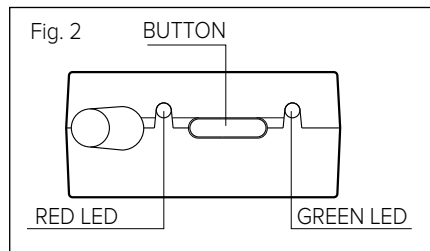

Fig. 2
- Check that the connection between the receiver and the heat generator has been completed successfully (receiver with green led on) (Fig. 2) as instructed in the receiver handbook.